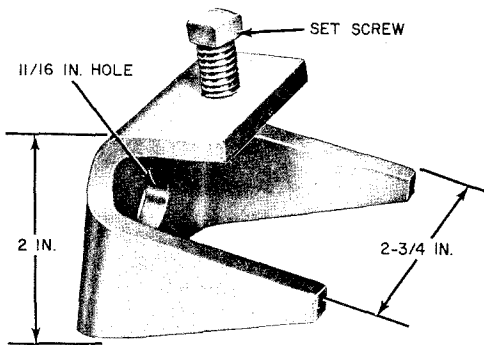

Fig. 5—B Beam Clamp
2.05 B Beam Clamp (Fig. 5): Used in conjunction with the 5/8-inch S Guy Bolt for dead ending strand on the flange of a structural steel member.